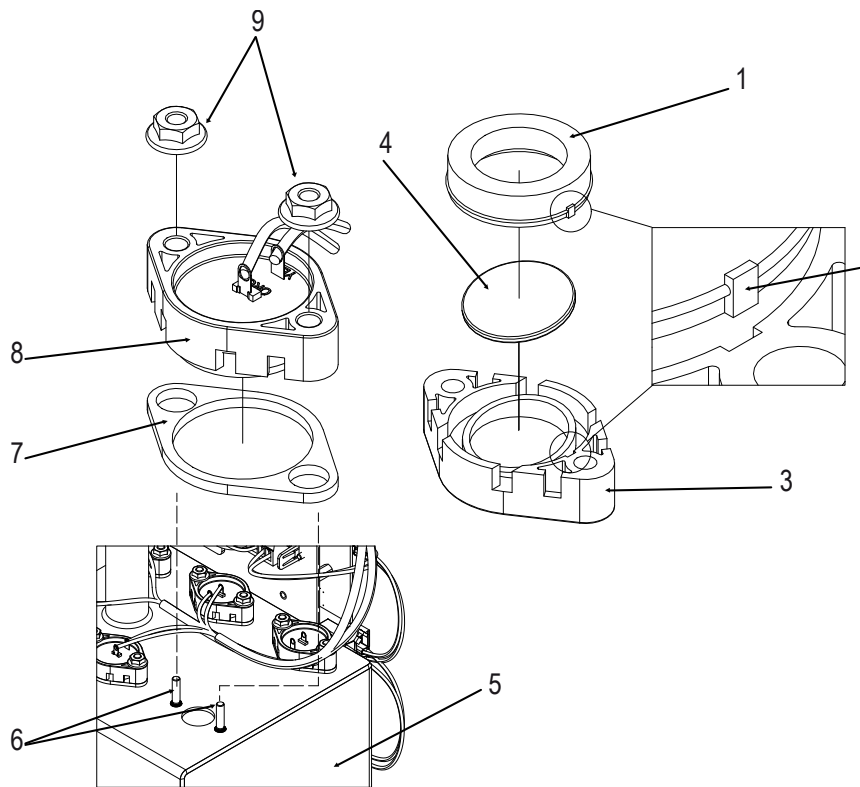

Figure 17: Replacing Piezo Transducers
4. Remove the two nuts that secure the transducer holder to the water reservoir. Lift the transducer holder upward to remove it from the reservoir. Figure 17 on page 33.
1. Position the new transducer over the threaded studs and slide it downward. Make sure the transducer is mounted in the right direction. The contacts on the transducer holder should point to the center of the water tank. Figure 17 on page 33.
1. Apply thermal paste on the transistors, as shown in Figure 17. Start with a dot of thermal paste and evenly spread the paste on the transistors.